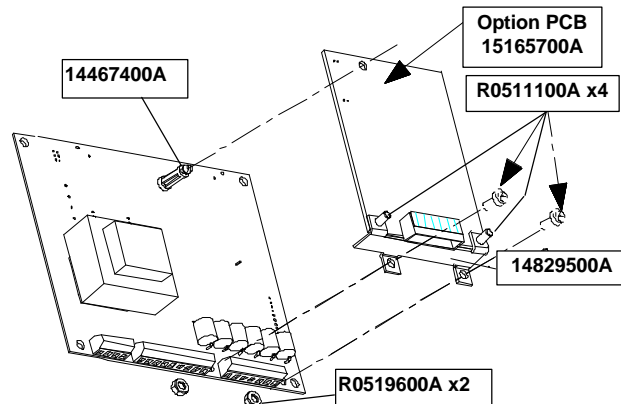

Figure 8-1 Mounting Modbus Plus Option PCB in Harsh Environment Enclosure
4. Attach the Mounting Bracket (14829500A) to the Modbus Plus Option PCB (15165700A) with 2 screws (R0511100A). See Figure 8-1.